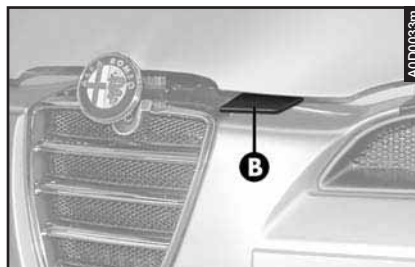

fig. 142
- Raise the safety lever upwards (**B-fig. 142**).